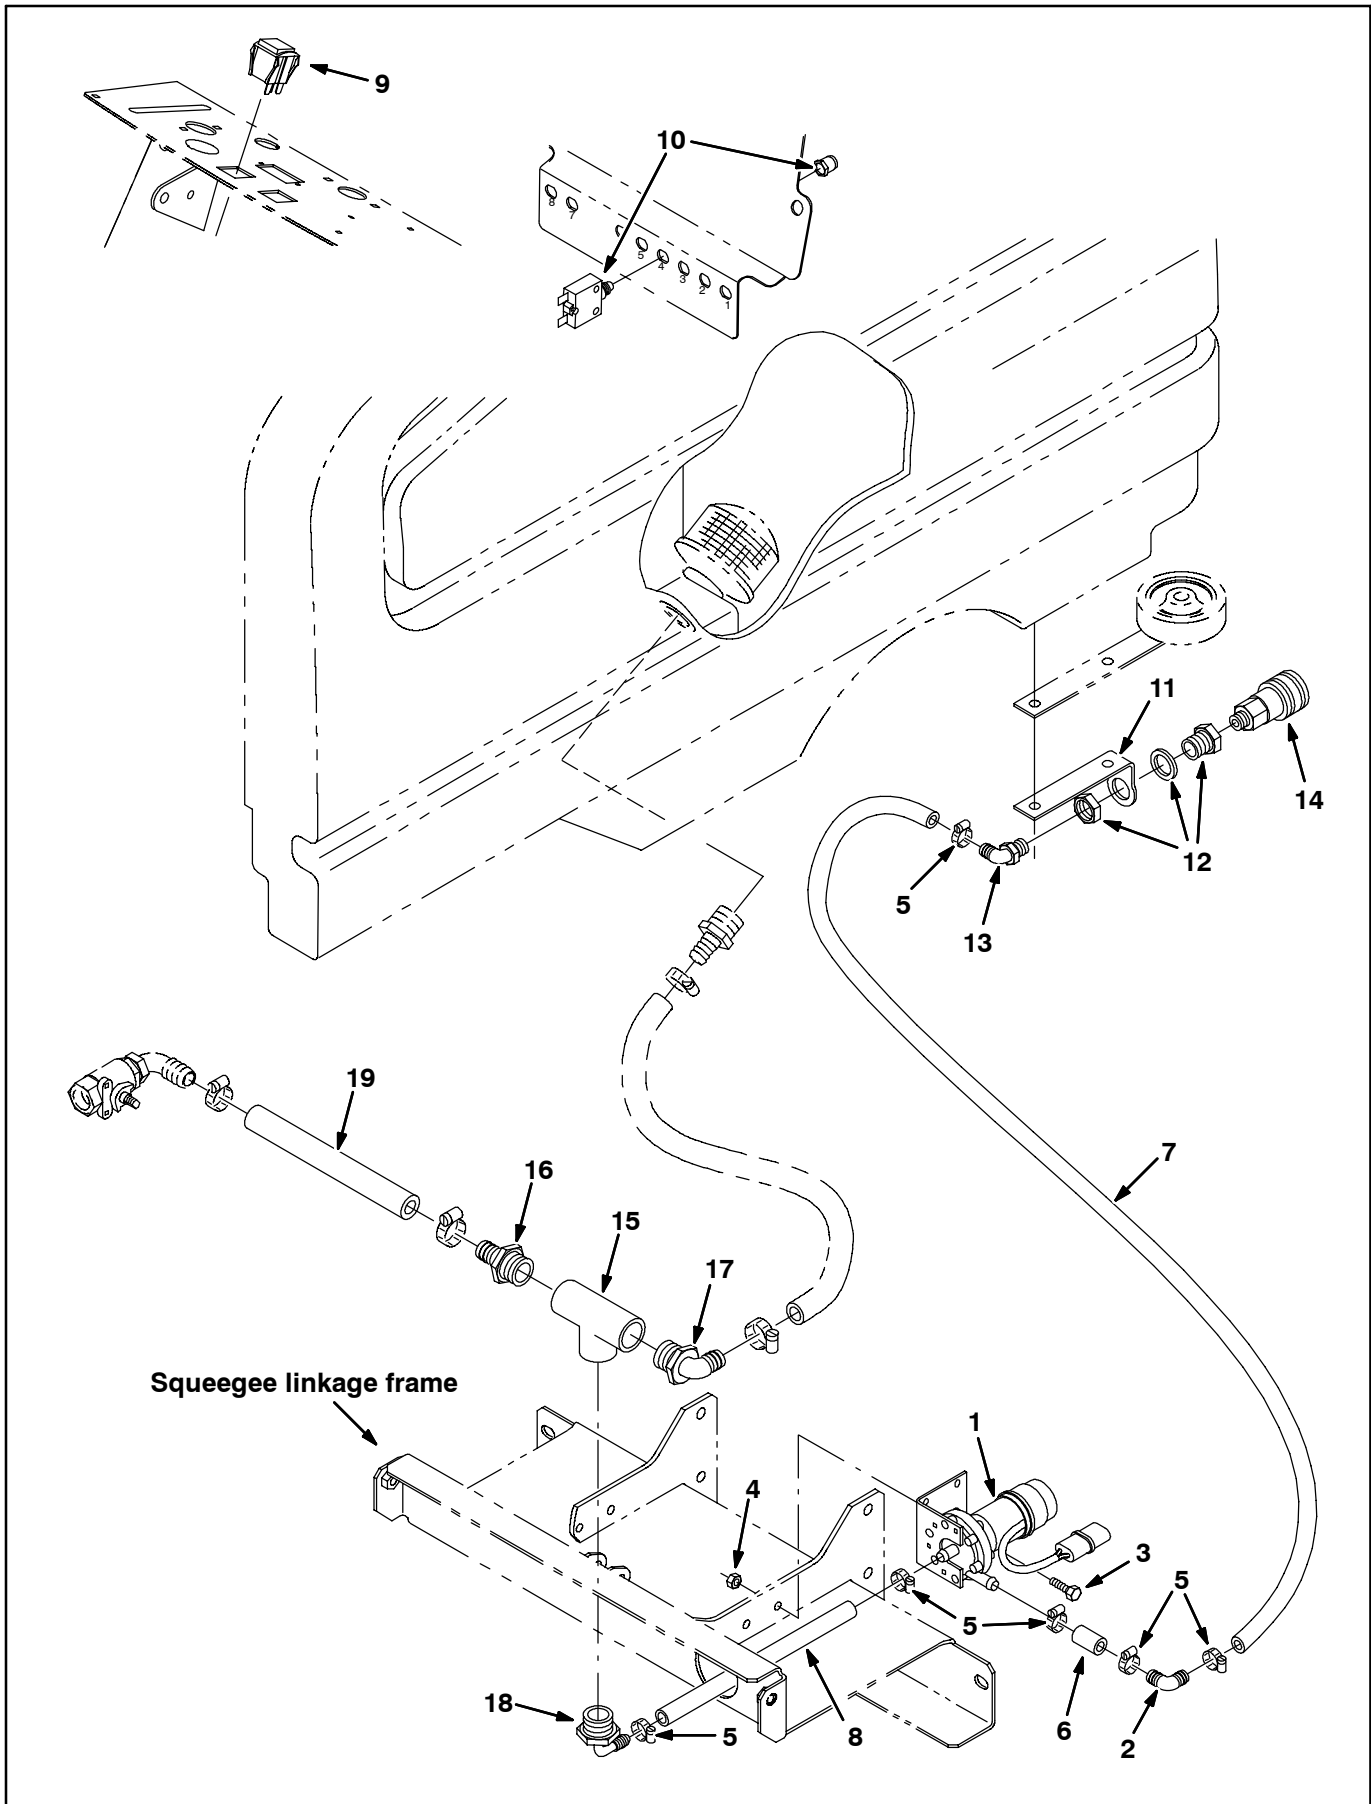
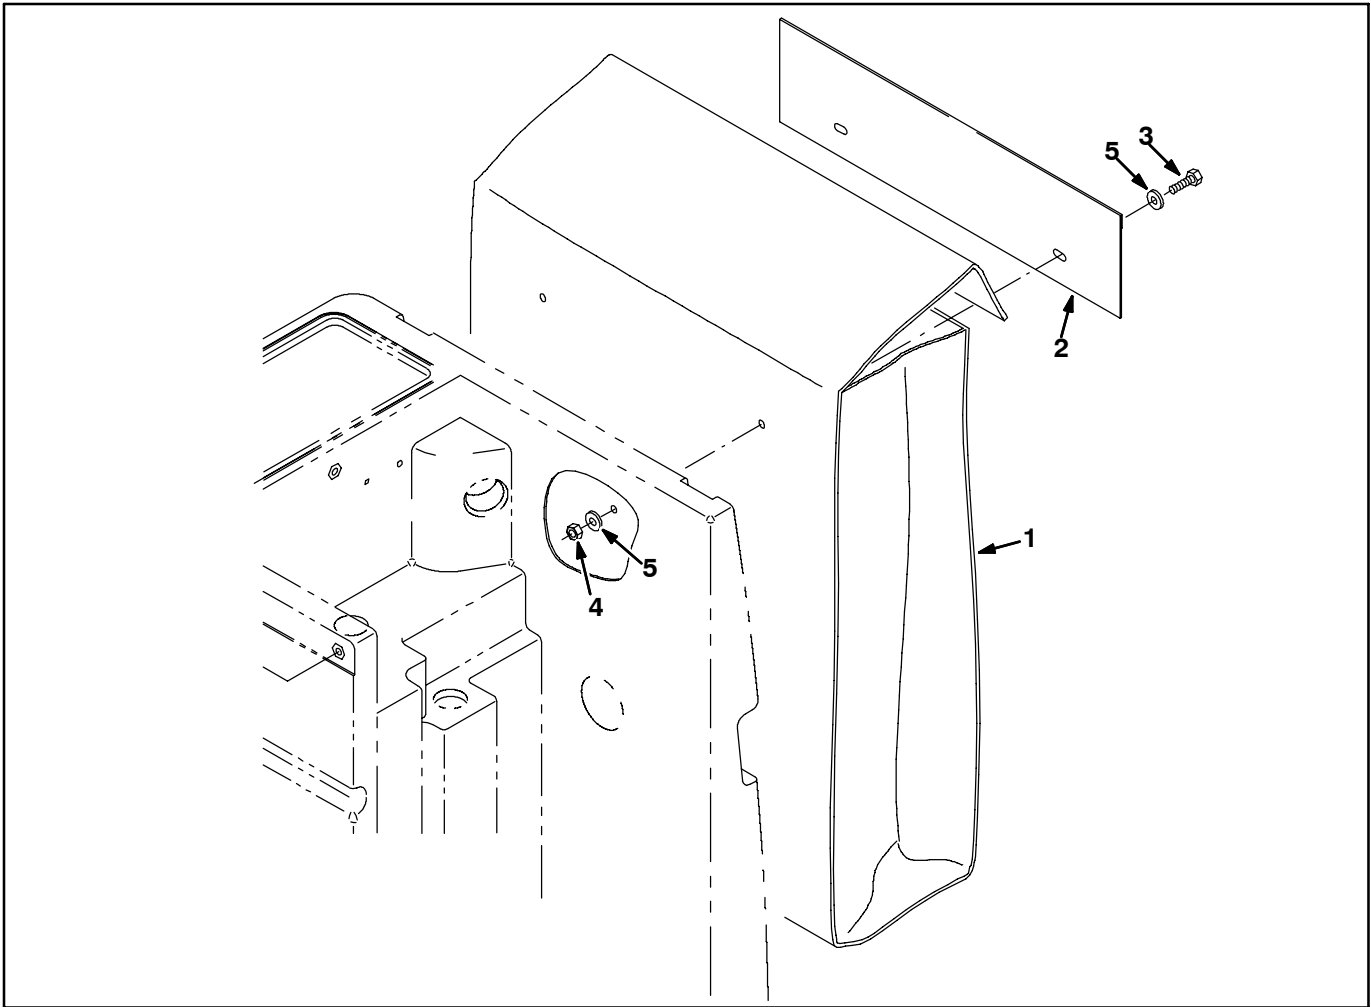
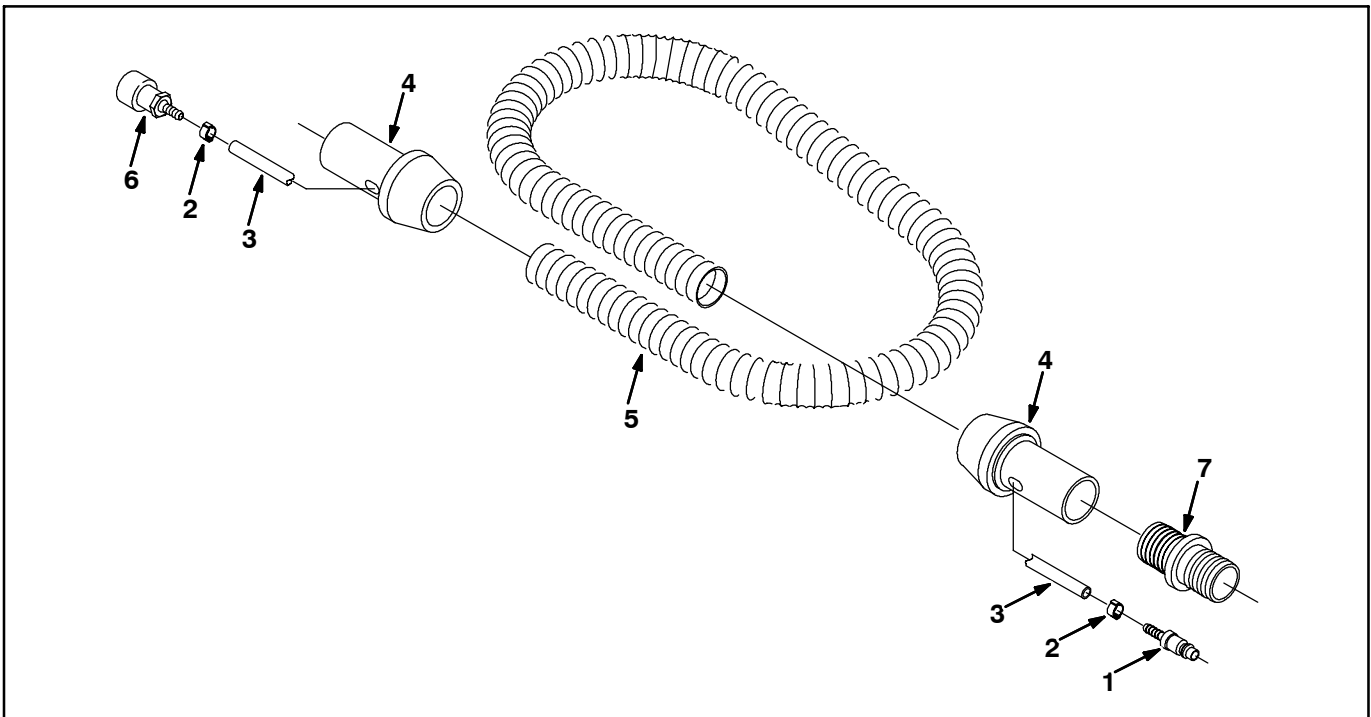

FIG. 2 - POWER WAND PUMP AND FITTINGS GROUP
FIG. 4 - POWER WAND BAG MOUNTING GROUP
FIG. 5 - POWER WAND HOSE ASSEMBLY
(Refer to FIG. 2)
3. Lift the control panel assembly just high enough to access the connections behind it. Install the power wand switch (9) in the control panel. Connect the switch (9) to the main harness. (Refer to FIG. 2 and 7)
4. Install the circuit breaker (10) in circuit breaker slot #4. Connect wires 6C/Blue and 39A/White to CB-4. (Refer to FIG. 2 and FIG. 7)
1. Locate the rear squeegee linkage frame under the rear of the machine. (Refer to FIG. 2)
2. Disconnect the rear squeegee vacuum hose and remove the rear squeegee assembly. Remove and set aside the five linkage frame mounting bolts. Disconnect the rear squeegee actuator from the main harness. Pull the linkage frame out from under the machine. (Refer to FIG. 2)
3. Connect one end of the 7" hose (8) to the end of the water pump (1) with a hose clamp (5). (Refer to FIG. 2)
4. Connect one end of the 1.5" hose (6) to the side opening of the water pump (1) with a hose clamp (5). Connect the other end of the 1.5" hose (6) to a 90° fitting (2) with a hose clamp (5). Connect the long 20" hose (7) to the 90° fitting (2) with a hose clamp (5). (Refer to FIG. 2)
5. Guide the 7" hose (8) on the water pump through the hole in the back plate on the linkage frame. Mount the water pump (1) to the linkage frame with two hex screws (3) and lock nuts (4). Connect the 90° fitting (18) to the other end of the hose (7) with a hose clamp (5). Rotate the 90° fitting (18) so the open end faces up. Tighten the hose clamp. (Refer to FIG. 2)
6. Push the linkage frame back into position under the rear of the machine. Reconnect the linkage frame to the machine with set aside mounting hardware. Reconnect the rear squeegee actuator to the main harness. (Refer to FIG. 2)
8. Thread the tee fitting (15) onto the 90° fitting (18). Connect the straight fitting (16) to the right side of the tee fitting (15). Connect the 90° fitting (17) to the left side of the tee fitting. (Refer to FIG. 2)
9. Connect one end of the 14.5" hose (19) to the water valve elbow using a set aside hose clamp. Connect the other end of the 14.5" hose (19) to the straight fitting (16) on the right side of the plastic tee fitting (15) with a set aside hose clamp. (Refer to FIG. 2)
10. Connect the hose from the tank to the 90° fitting (17) on the left side of the plastic tee fitting (17) with set aside hose clamp. Recheck all hose clamps and fittings. (Refer to FIG. 2)
11. Install the water line mounting bracket (11) underneath the left rear corner bumper wheel with the bumper wheel mounting hardware. (Refer to FIG. 2)
12. Assemble the brass straight fitting (12) to the mounting bracket (11). Connect the quick disconnect fitting into the rear end of the brass fitting (12). (Refer to FIG. 2)
13. Connect the 90° fitting (13) to the front end of the brass fitting (12). Connect the open end of the 20" hose (7) to the 90° fitting (13) with a hose clamp (5). (Refer to FIG. 2)
BILL OF MATERIALS FOR FIG. 2 - POWER WAND PUMP AND FITTINGS GROUP
NOTE: Power Wand Kit, Tennant Part Number 391057, includes; Fig. 2, Fig 4, Fig 5 and Fig 6.
BILL OF MATERIALS FOR FIG. 4 - POWER WAND BAG MOUNT GROUP
BILL OF MATERIALS FOR FIG. 5 - POWER WAND HOSE ASSEMBLY